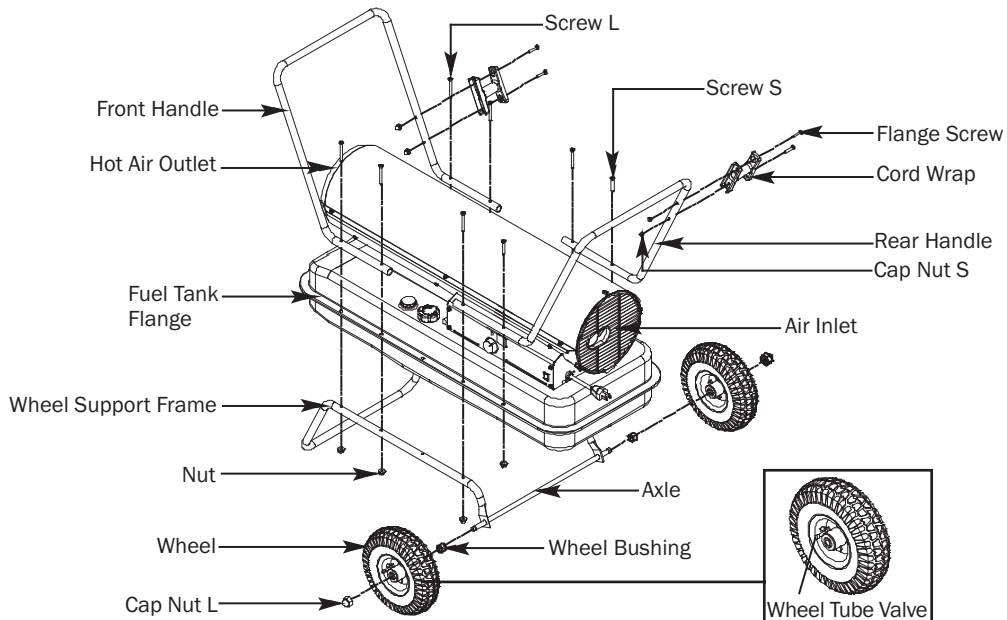

Figure 3 - Assembly
NOTE: When installing wheels, tube valve should face out from support frame (Figure 3).
4. Place heater on wheel support frame. Make sure the air inlet end (rear) of heater is over wheels. Align the holes on fuel tank flange. Insert screws through handles (front and rear), fuel tank flange, and wheel support frame as shown in Figure 3 and attach nut finger tight after each screw is inserted.